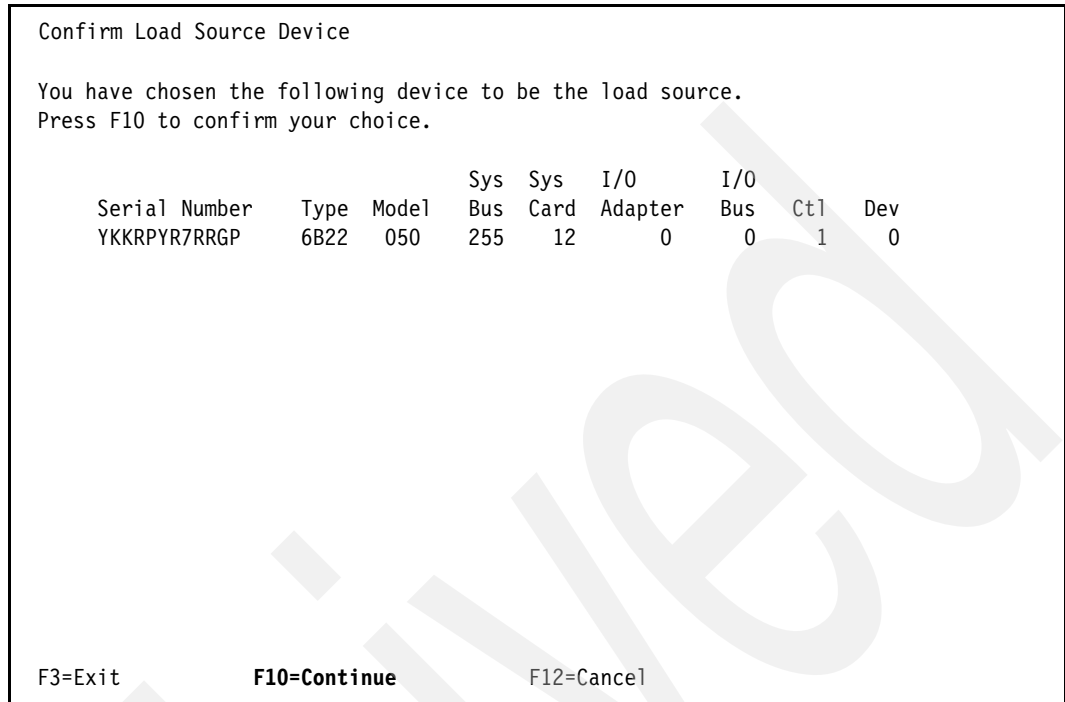

Figure 6-69 IBM i Confirm Load Source Device panel
8. We choose F10=Continue to confirm our load source device selection and continue, as shown in Figure 6-69.